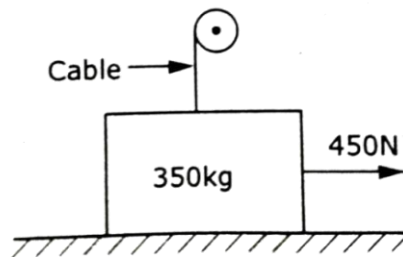

Fig.13(a)
13. A. A man can pulled horizontally with a force of 450 N. A mass of 350 kg is resting on a horizontal surface for which the co-efficient of friction is 0.20. The vertical cable of a crane is attached to the top of the block as shown in fig. 13(a). What will be the tension in the cable is the man is just able to start the block to the right? (6)